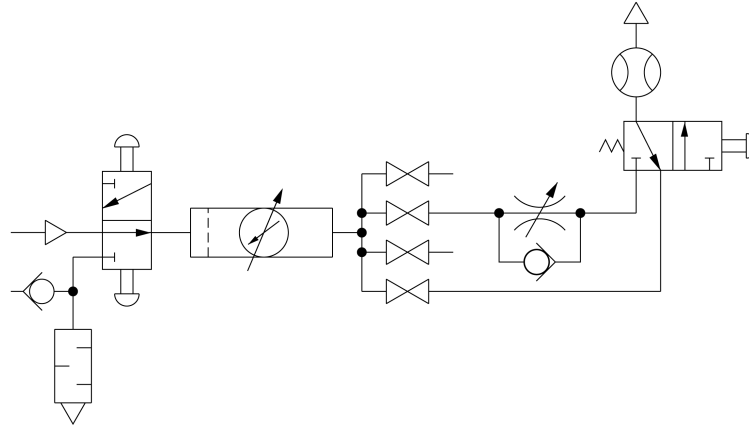

Figure 3-6. Schematic Diagram of a Circuit Using a DCV to Select a Power Source.
- ☐ 21. Modify the circuit as shown in Figure 3-6. Connect the Flow Control Valve to the NC port of the directional control valve and the Conditioning Unit to the NO port.